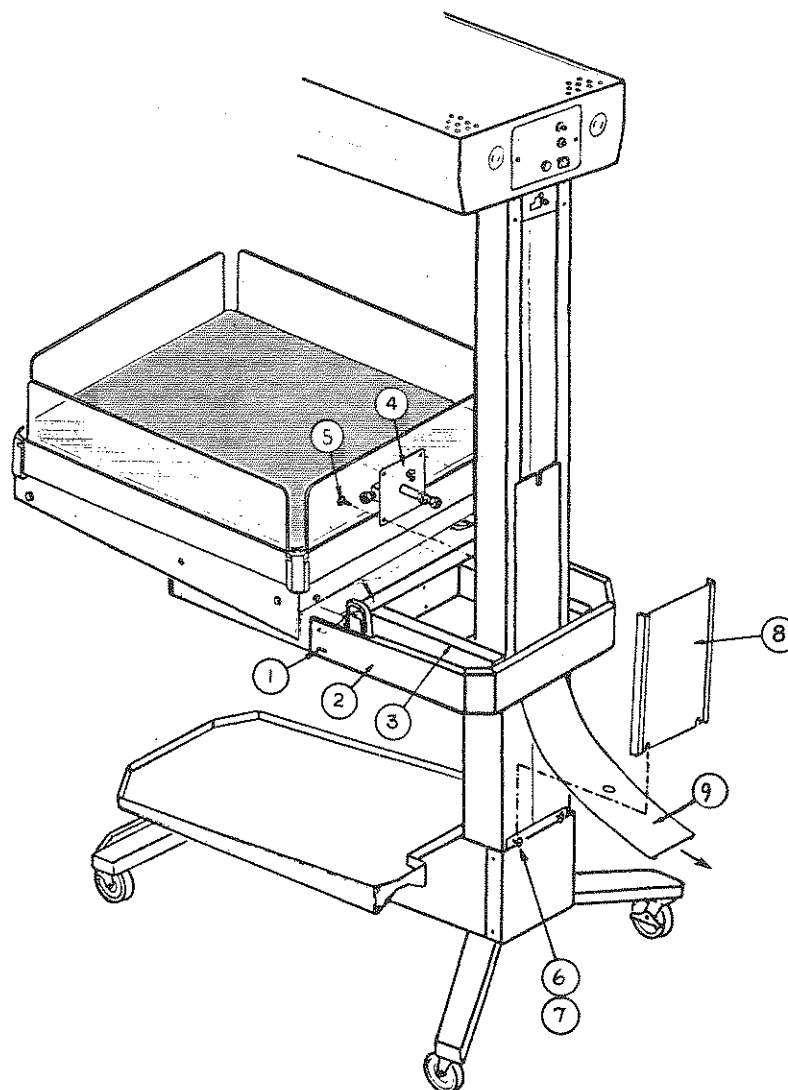

FIGURE 5.3 MOUNTING POST TRIM STRIP REMOVAL AND REPLACEMENT
1. REFER TO FIGURE 5.3. Loosen (do not remove) the four screws (1) securing the Instrument Tray Support (2) to the Bassinet Support (3) and pull the support back as far as it will go (approx. 1/4 inch).